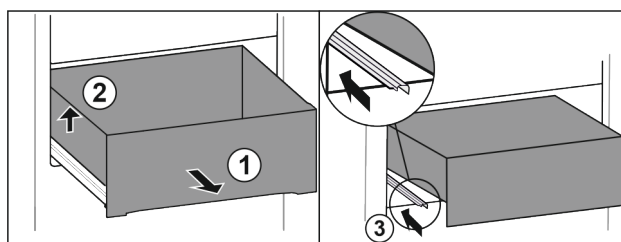

Fig. 113
- ▶ Pull out drawer as far as it will go. Fig. 113 (1)
- ▶ Lift drawer on the left. Fig. 113 (2)
- ▶ Slide in left rail. Fig. 113 (3)